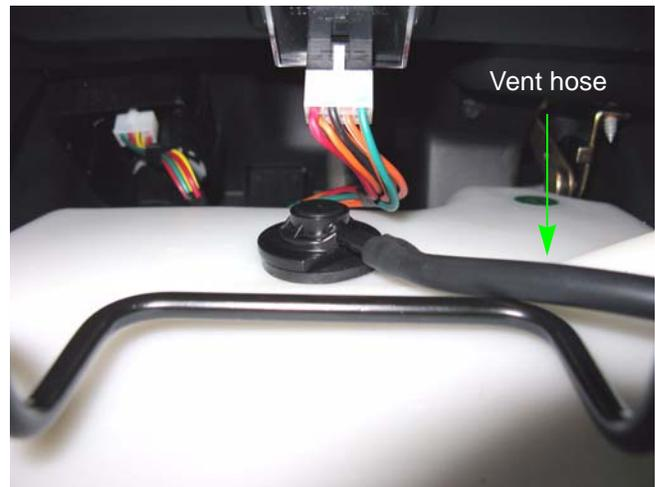

Figure 2.11
2. Disconnect the vent hose. See Figure 2.11.